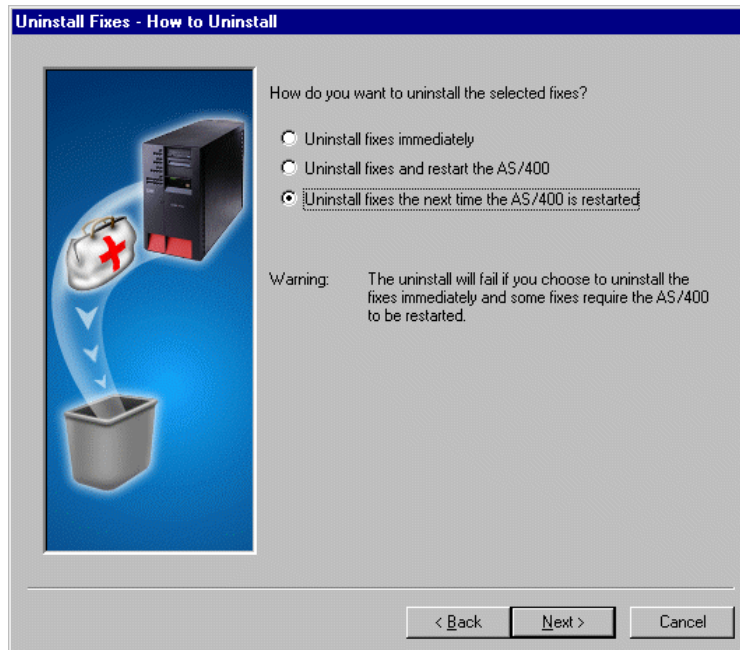

Figure 103. Uninstall Fixes: How to Uninstall window
10. Select whether to perform a Temporary or Permanent uninstall and click **Next**. The Uninstall Fixes – How to Uninstall window is shown in Figure 103.